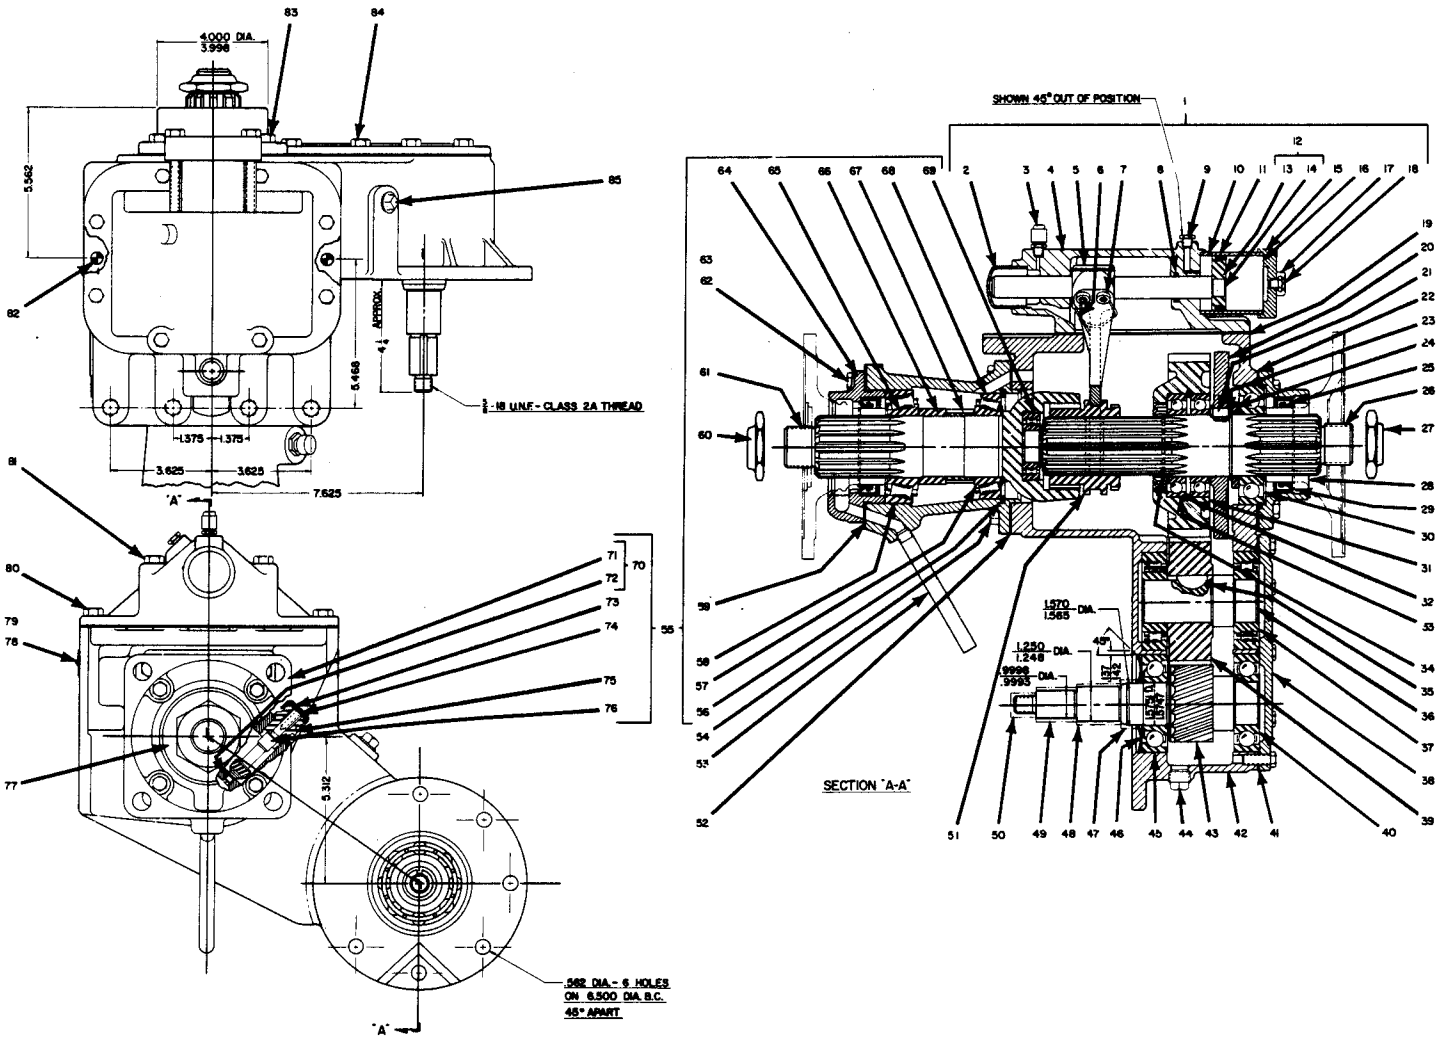

Figure 3. P/N 14017 Gear Box Assembly For Pump Model 06C15-GH1
Before removing the impeller, drain the gearbox (25), by removing the magnetic drain plug (44, figure 3). Clean and reinstall the drain plug after draining the gearbox.
The instructions in this section are keyed to figure 3 and the accompanying parts list.